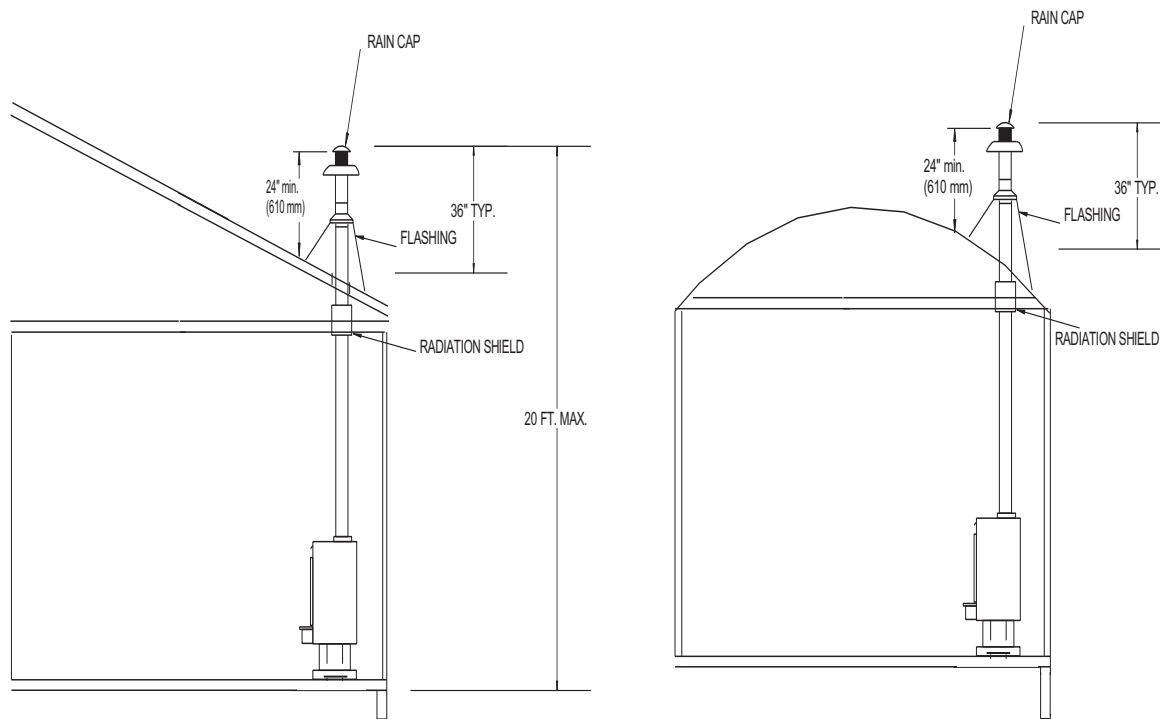

Figure 27
3. Add additional pipe until both of the following are met: (See Figure 27).